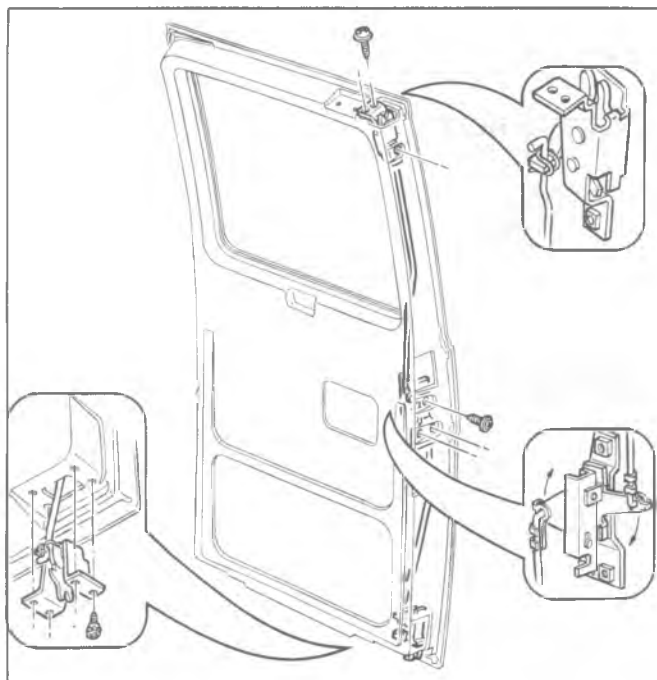

Fig. 2D-128--Remote Control and Latch
2. Disengage rod from remote control assembly. See figure 2D-128.